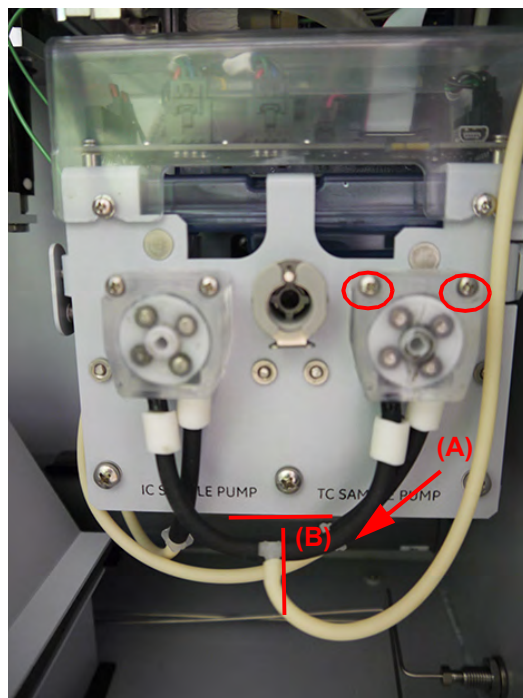

Figure 57: Sample Pump Heads and Tubing — TC Side
2. Open the Analyzer and locate the two sample pump heads Figure 57. Refer to “Interior Views of the Analyzer” on page 213 if needed.
3. To remove the TC pump head, disconnect the right *inlet* tubing coming out of the pump head from the fitting at the end of the TC waste tubing (**A**), Figure 57.
4. Disconnect the left *outlet* tubing coming out of the sample pump head from the T-connector **(B)**, Figure 57.
10. Connect the left tubing end to the T-fitting **(B)**, Figure 57.
11. Connect the right tubing end to the TC waste tubing **(A)**, Figure 57.